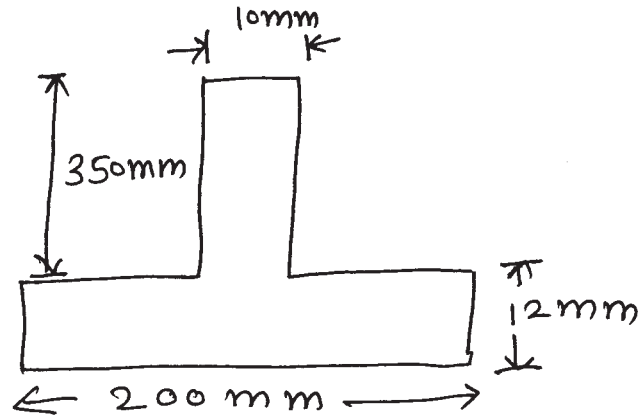

Fig. No. 04.
- d) Calculate I_{XX} of inverted T-section as shown in Fig. No. 04.